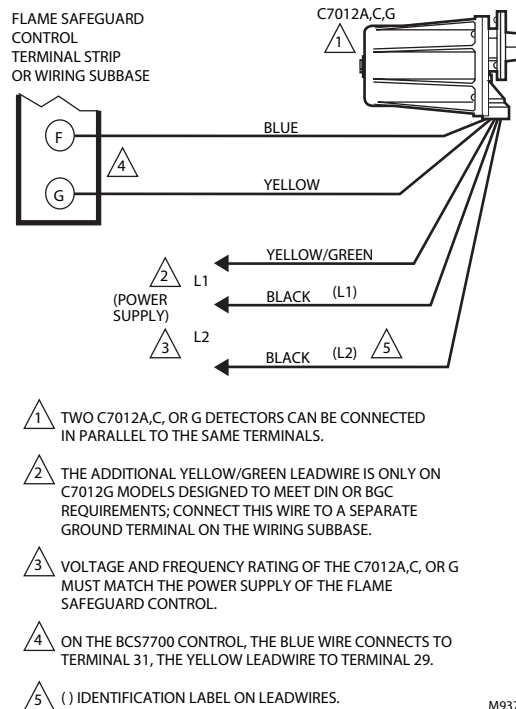

Fig. 10. Wiring diagram for C7012A,C, or G Detectors with rectification type, flame safeguard primary and programming controls.
5. Refer to Fig. 10 through 17 for wiring connections.